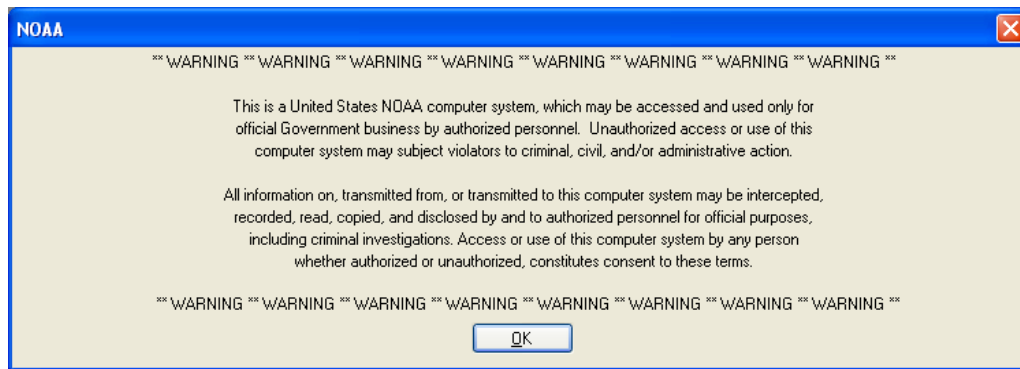

Figure B-15: NOAA Warning Window
2. Double-click on the **RWS.NET** shortcut to start the RWS application. The *NOAA Warning* window will appear (Figure B-15).